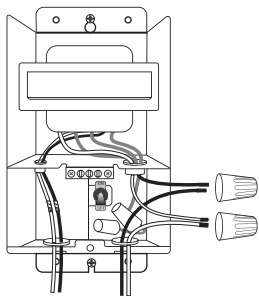

Figure 5
6. Use the included wiring caps to connect the output line of the transformer with your load input line, then place the connected line in the Low Voltage Wiring Compartment. (Figure 5) Note: (1) If the load has a ground wire, connect the ground wire to the Ground Terminal. (2) Do not remove the terminal block of the unused output line port, or it will cause a short circuit.